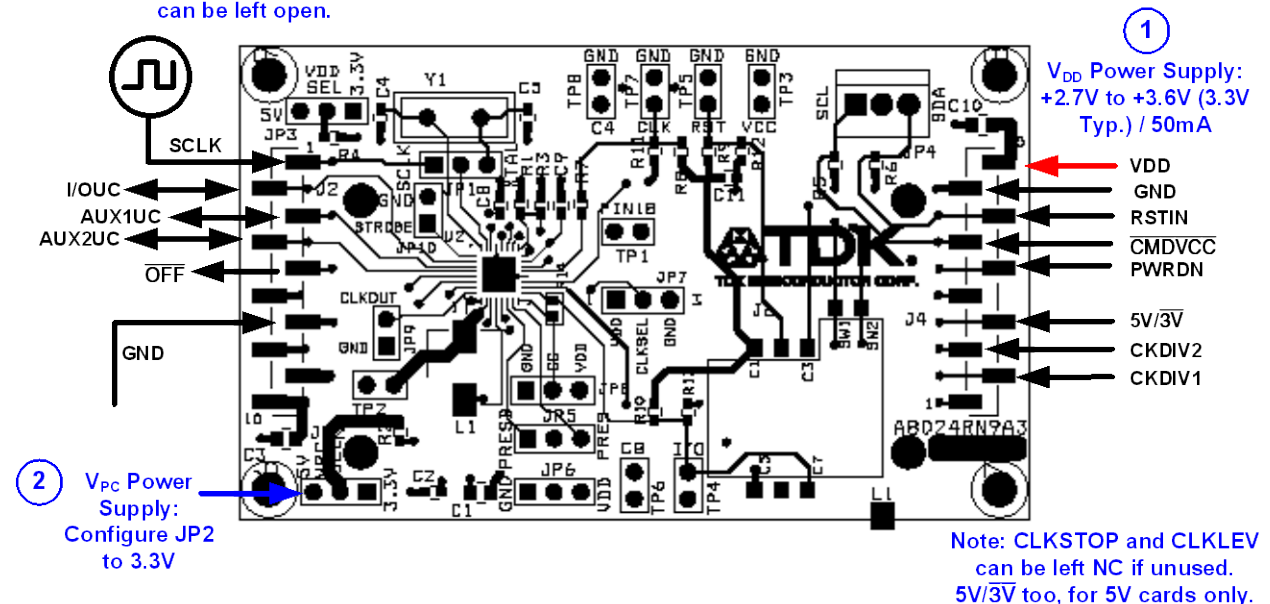

Figure 2: 73S8023C Demo Board Basic Connections
The basic connections to the demo board are described below and shown in Figure 2.
2. Control signals to the device can be connected through J2 and J4 (see Figure 2 and the Electrical Schematic, Figure 5).
- Apply 3.3V (1) or GND (0) to CLKDIV1 and CLKDIV2 pins to set the desired clock rate as follows: